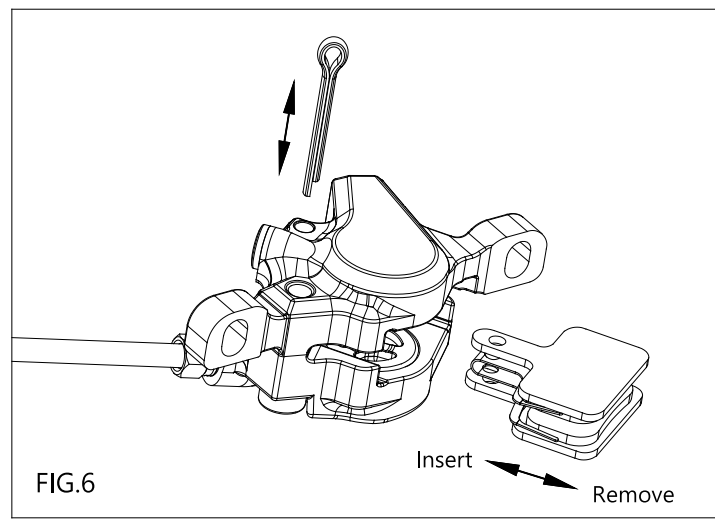

FIG.6
- 2) (FIG.6) The disc brake pads & spring are fixed by cotter pin. Take out the cotter pin to dislodge brake pads.
- 1) Position brake pad and spring to correct direction. (FIG.6)
- 2) Place brake pads and spring in the caliper, aligning with the pinhole (FIG.6), insert the cotter pin and bend longest end 45 degrees to secure it. (FIG.6)